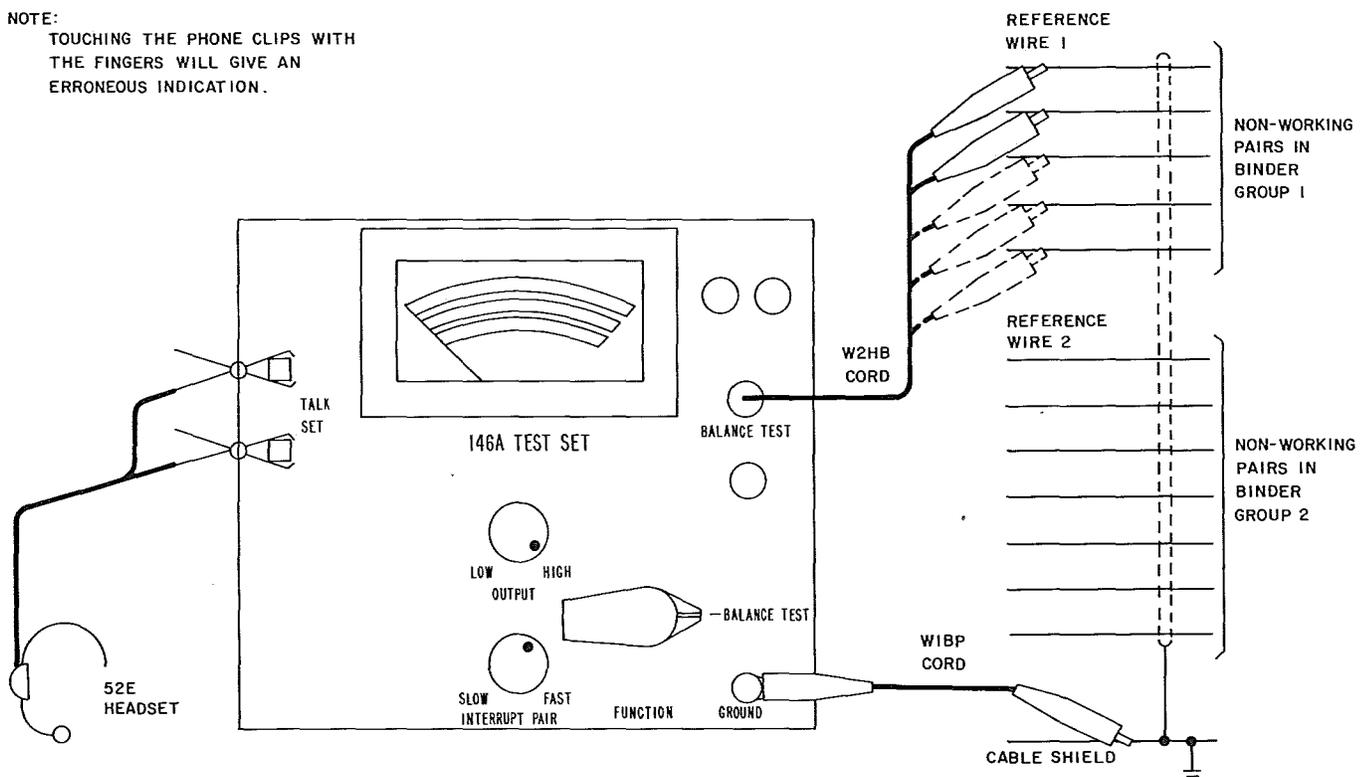

Fig. 14—Balance Testing
6.01 Referring to Fig. 14, connect the GROUND post on the test set to the cable shield using the WIBP cord.